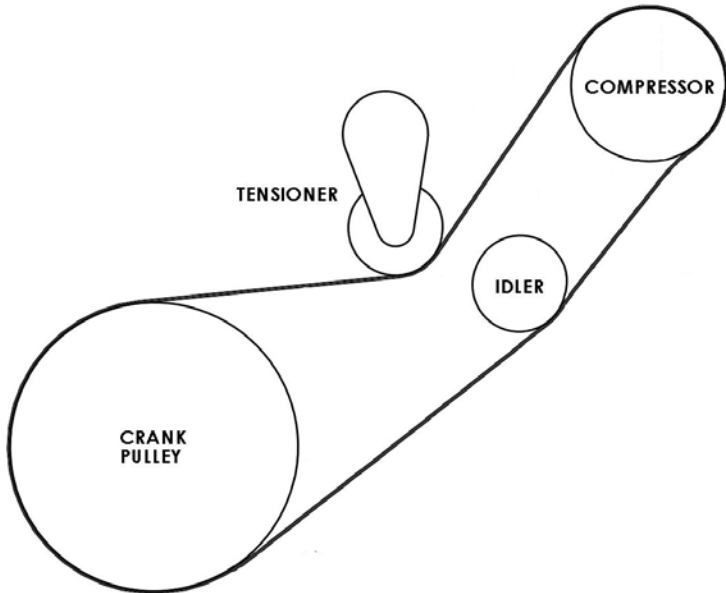

Figure 1.1 - VMAC Belt Routing
- Remove tension from the VMAC belt (Figure 1.1)